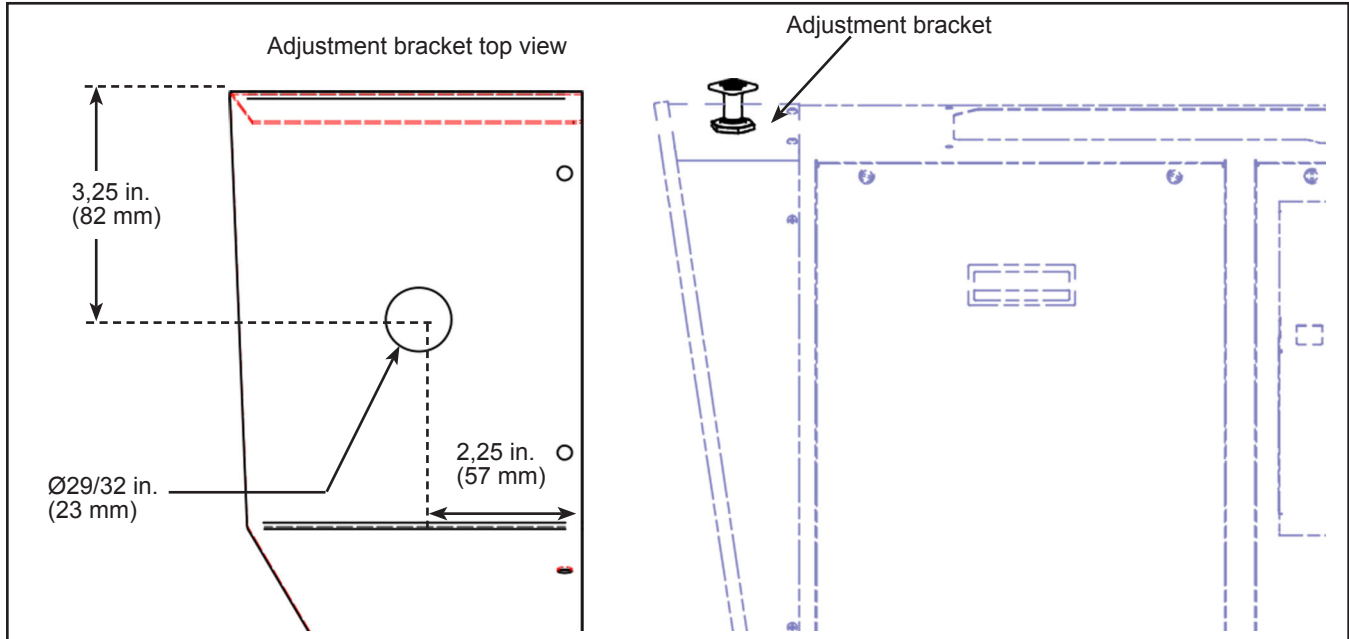

Figure 2 - Hole Position on the Adjustment Bracket
- 1.10. Drill a hole of 29/32 in. (23 mm) on the top portion of the adjustment bracket of the operator's control console. See Figure 2.